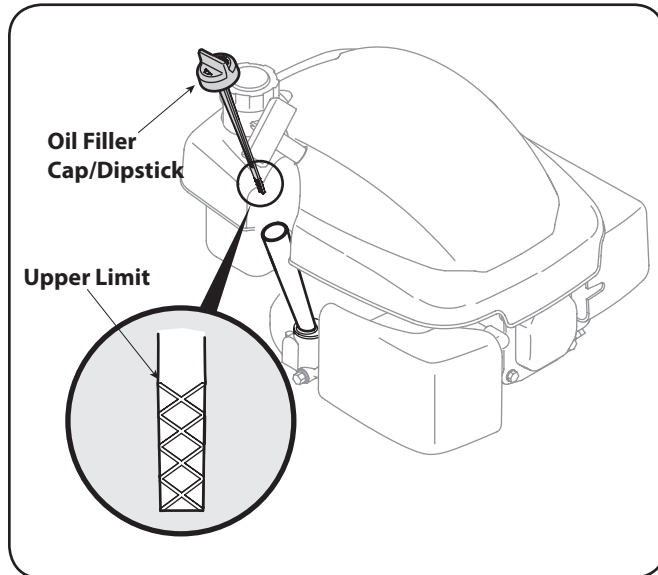

Figure 3-3
1. Remove the oil filler cap and wipe the dipstick clean. See Figure 3-3.
3. Remove dipstick. If the level is low, slowly add oil to the upper limit on the dipstick. See Figure 3-3 inset.